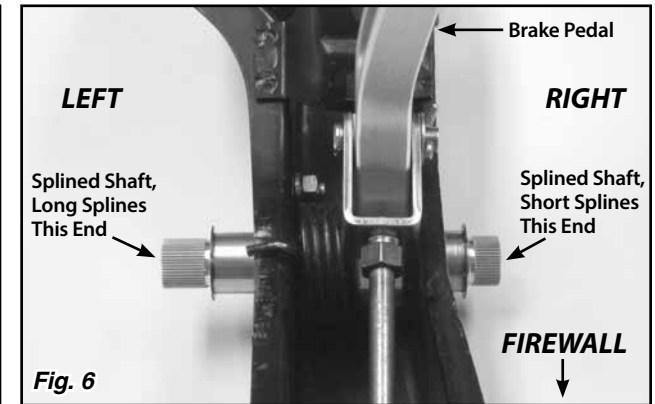

Fig. 6
Step 3: Insert the splined shaft into the clutch pedal axle housing, with the long splines on the left and the short splines on the right. Push it through so that the splined ends are protruding from both sides of the pedal support bracket. Fig. 6